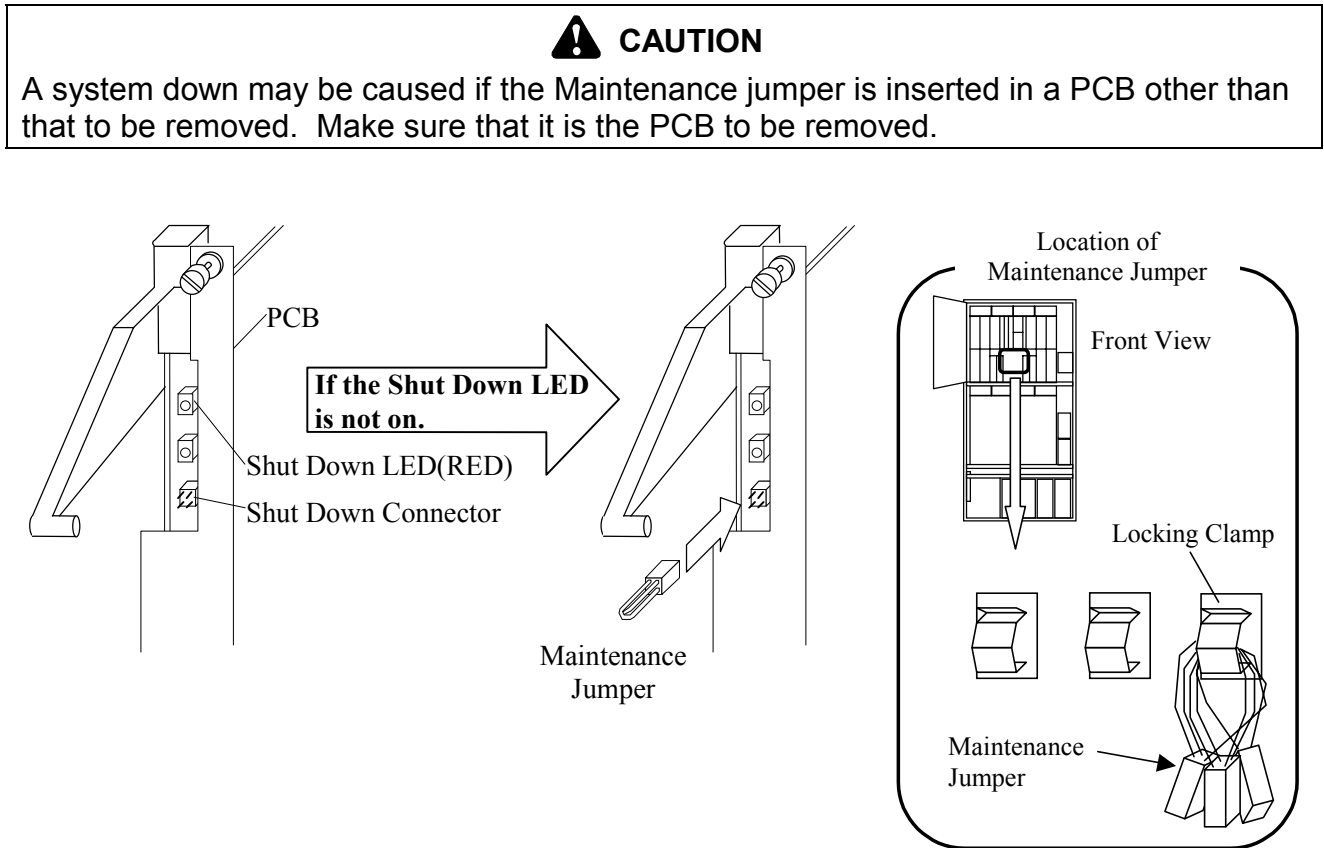

Fig. 4.3.2-1 Shut Down LED
- a. Confirm that Shut Down LED is on (Fig. 4.3.2-1). If the LED is not on, connect the Maintenance Jumper to the Shut Down Connector.
- a. Remove the bracket and cable clamp referring to Fig 4.3.2-2.
- b. Disconnect the optical fibre cables referring to Fig 4.3.2-3.